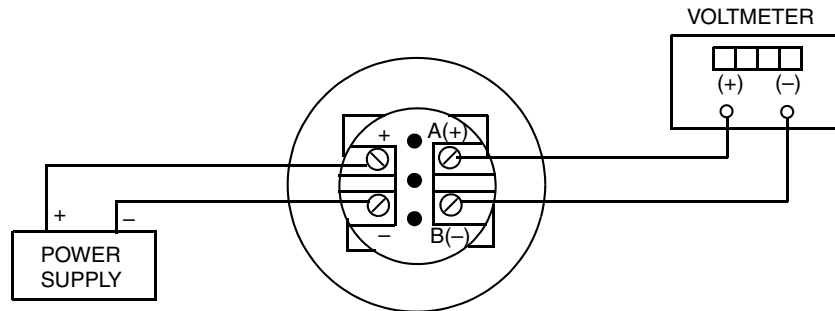

Figure 32. 1 to 5 V dc Output Calibration Setup of Electronic Equipment
5. If calibrating the output signal, also connect equipment as shown in Figure 32.
If calibrating the output signal, also connect equipment as shown in Figure 32.